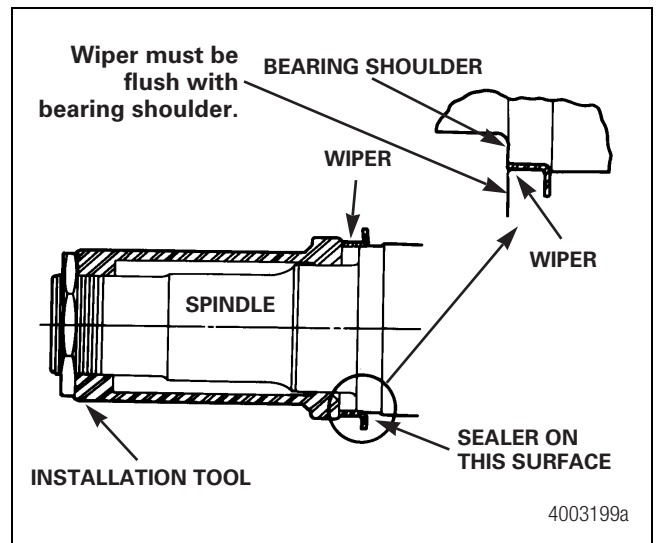

Figure 5.7
1. If the seal incorporates a separate wiper, apply a thin coat of sealant around the axle oil seal collar. Then using an installation tool, drive the wiper onto the oil seal collar until its edge is flush with the bearing shoulder. Figure 5.7.